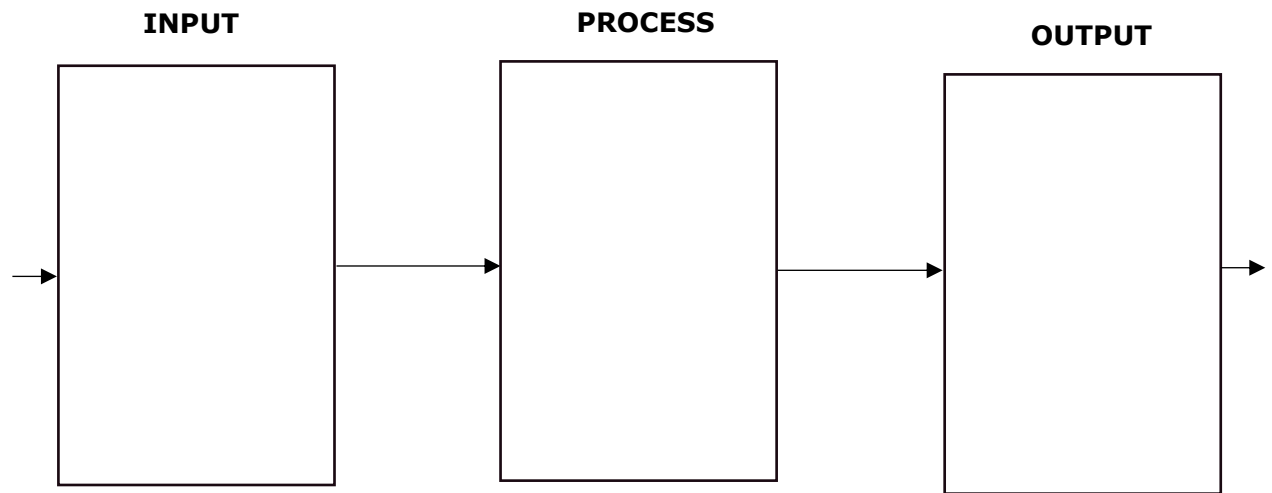

Figure 2
a. Describe the function of the electronic system of the design idea in terms of inputs, processes and outputs in Figure 2.
b. Identify which type of system is shown in Figure 2 by circling the correct answer.